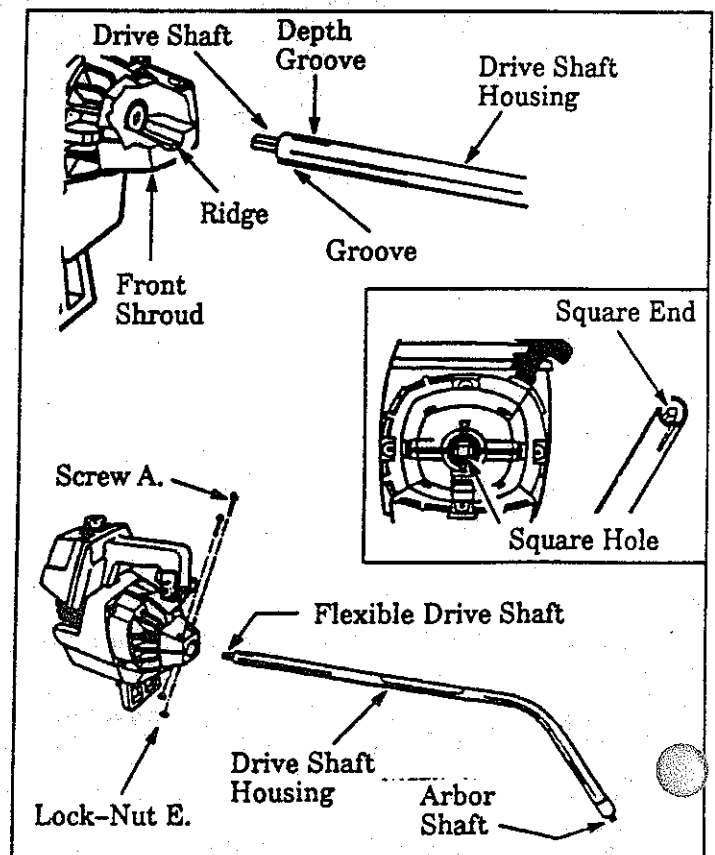

Figure 2
1. DRIVE SHAFT HOUSING (Figure 2)
- a. Place the two Screws "A." into the holes on the Front Shroud as shown in Figure 2.
- f. Turn the Arbor Shaft as necessary to align the square end of the Flexible Drive Shaft with the square hole inside the Front Shroud opening. Figure 2 (inset).
- h. Tighten Screws "A." alternately with the hex wrench until secure. Figure 2.